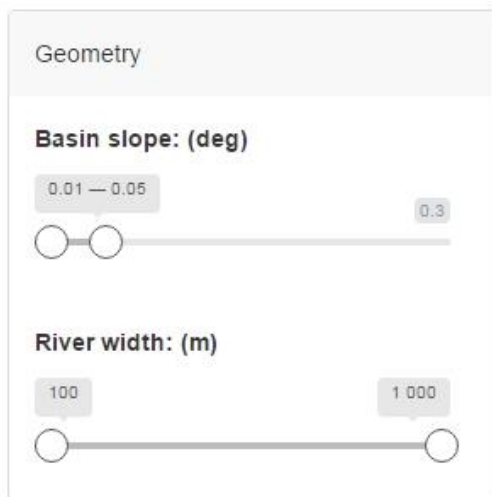

Figure 4.18 Geometry filter in the filter facility
- Click on the 'Geometry' filter. In order to select only the runs with a gentle basis slope you need to constrain the range of search by shifting the right white circle to the right until the desired maximum slope value (Figure 4.18).
'Tidal amplitude' bar and shift the left white circle to the right in the 'Wave height' bar (Figure 4.18).
- Finally, open the sediment composition filter and select only the sand sediment classes from the drop-down menu, in order to filter for only sand-rich river deltas (Figure 4.18)